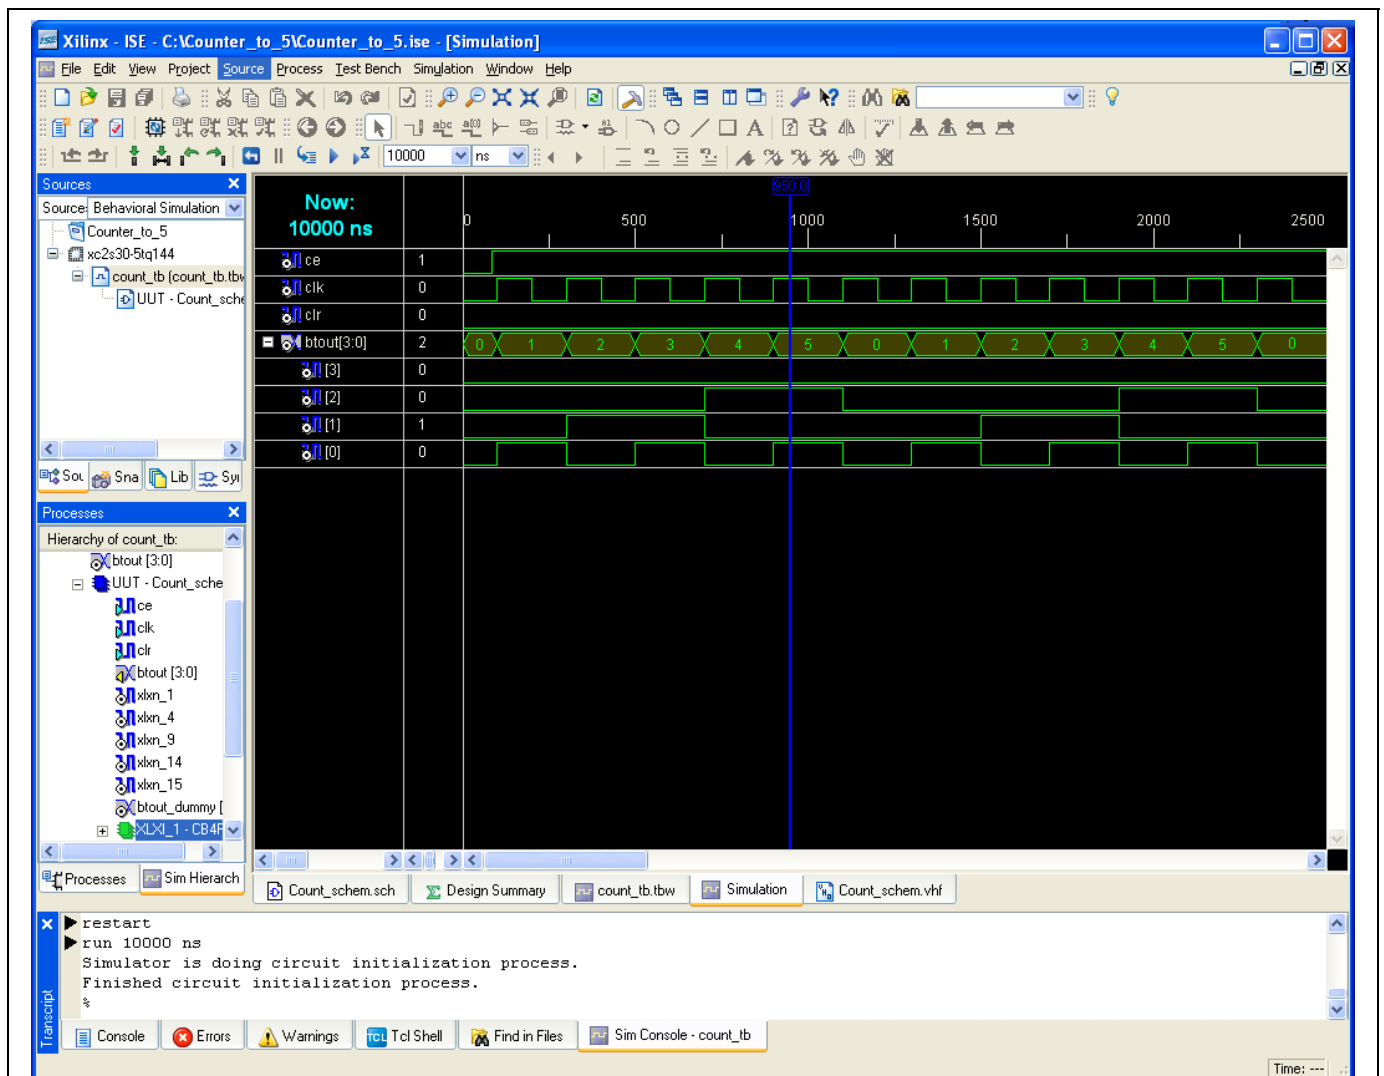

Figure 11: Testbench Waveforms for 0 to 5 Counter
bus, line in correspondence with the name. Attach the bus taps as indicated and name them btout(0) to btout(3) using the “add net name” tool. Be sure to save the design and check for errors. If none are found go back to “Project” and create a new source of type “Testbench Waveform” using a single clock. Provide changes in the logic states of “ce” and “clr” to fully test your design. Save this file and go to “Simulate Behavioral Model”. Verify that your logic is working properly by examining the outputs on the “Wave” plot below (Figure 11). Note that the “btout” bus is given numerically after each clock transition and can be expanded to look at the individual bit states as well. Does the output agree with your Truth Table?